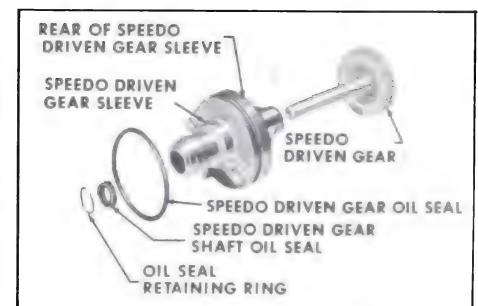

Figure 5-240
1. Remove speedo driven gear. See Figure 5-240.
2. Examine speedo driven gear oil seal. If nicked, torn or worn remove seal. See Figure 5-240.
2. Install speedo driven gear oil seal. See Figure 5-240.